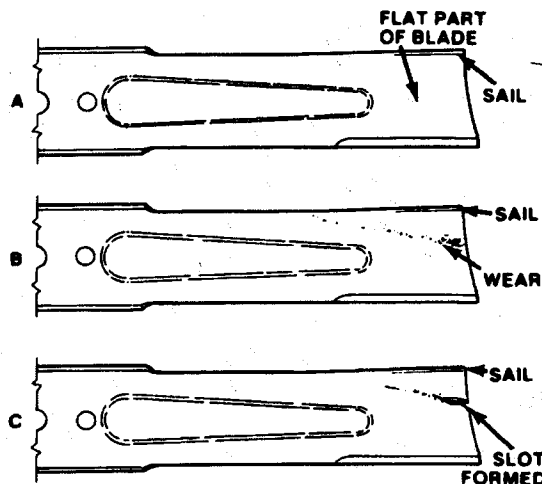

Figure 14
2. Examine cutting ends of the blade carefully, especially where the flat and curved parts of the blade meet (Fig. 14-A). Since sand and abrasive material can wear away the metal that connects the flat and curved parts of the blade, check the blade before using the machine. If wear is noticed (Fig. 14-B), replace the blade; refer to Removing the Cutter Blade, page 13.
If the blade is allowed to wear, a slot will form between the sail and flat part of the blade (Fig. 14-C). eventually a piece of the blade may break off and be thrown from under the housing, possibly resulting in serious injury to yourself or bystanders.